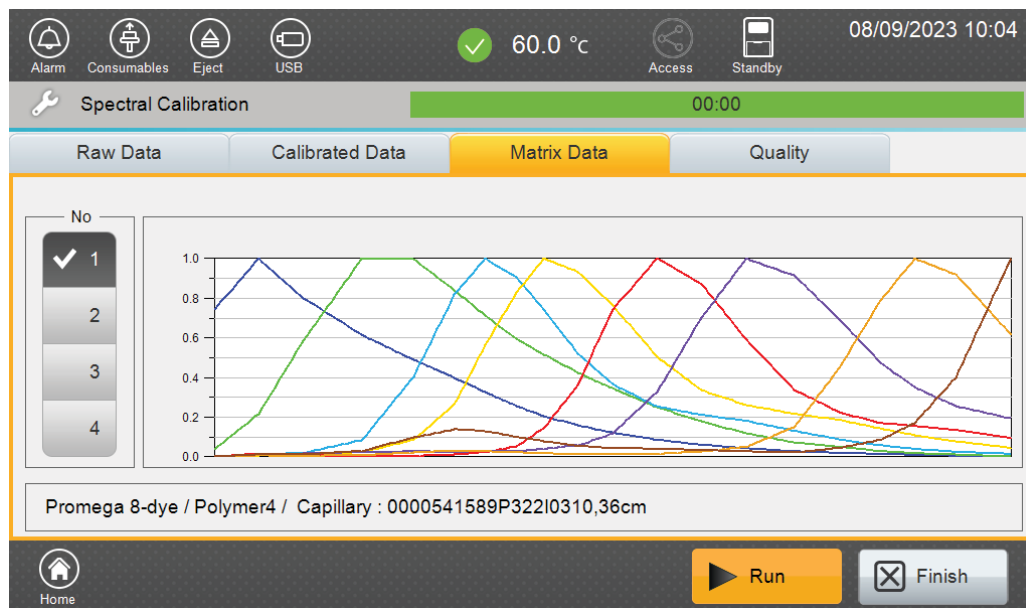

Figure 12. Spectral Calibration 'Matrix Data' tab screen.
- The 'Matrix Data' tab can be used to view emission spectra for each capillary (Figure 12).